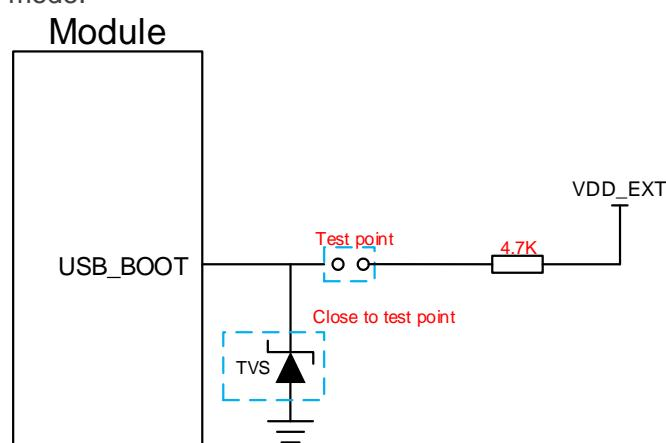

Figure 28: Reference Circuit of USB_BOOT Interface
2. When using MCU to control the module to enter the forced download mode, follow the above timing sequence. It is not recommended to pull up USB_BOOT to 1.8 V before powering up VBAT. Short the test points as shown in **Figure 28** can manually force the module to enter download mode.